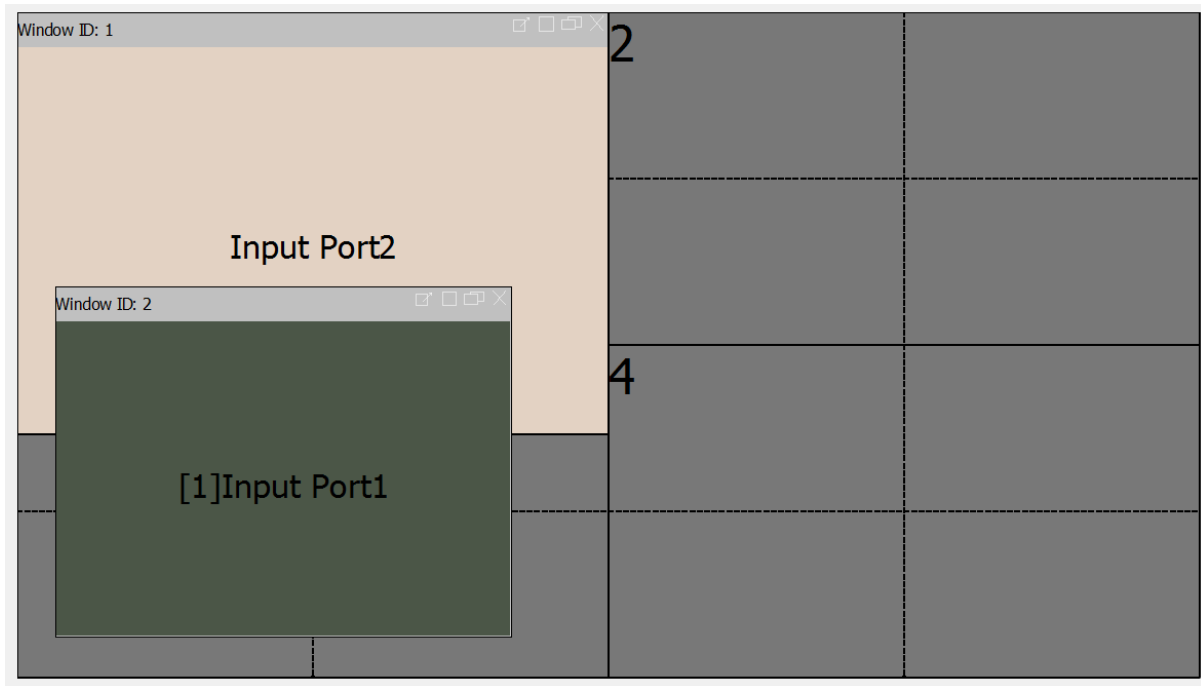

Figure 50: Multiple input example
- In figure 50 input 1 and 2 are both overlaying screens 1 & 3, to determine which input sits on the top and which on the bottom the Pro Matrix software uses layers to determine what portions of what images are displayed
- In the example from figure 50 input 1 is currently on top of input 2, if we right click on input 1 and then left click on put the layer down, input 2 will now overlay input 1